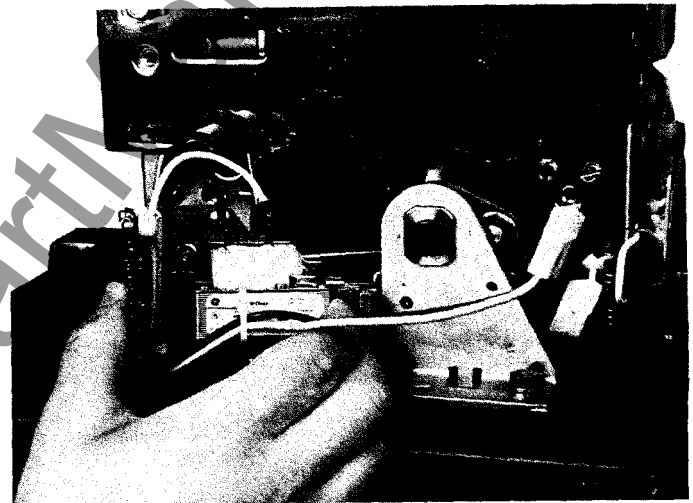

Figure 3. Installation of the Remote Close under the breaker spring frame.
7. While holding the charge interlock rod of the breaker down against the midcover, move the Remote Close under the spring frame until it rests against the side frame of the breaker mechanism, as illustrated in Figure 3. Slide the Remote Close under the breaker's torque tube until the Remote Close engages the closing lever projecting through the breaker side frame.